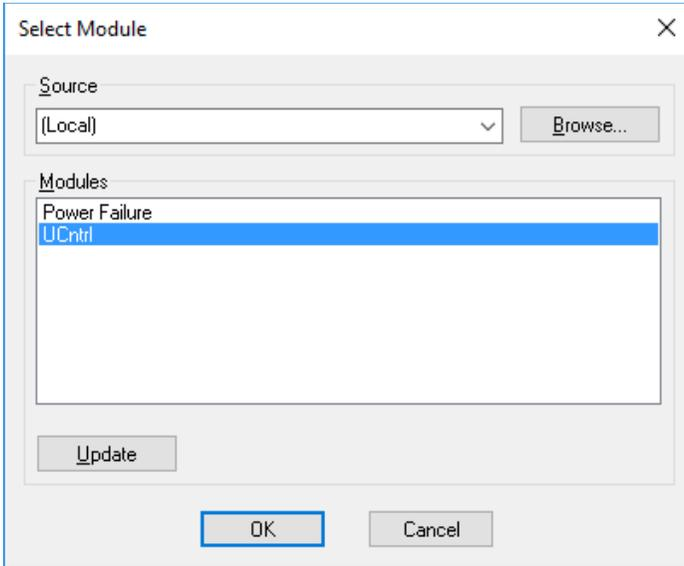

Figure 7-3. Select Module Dialog
- ⇒ In the Select Module dialog, leave the Source at "(Local)" and select the module UCNtrl as shown in Figure 7-3.